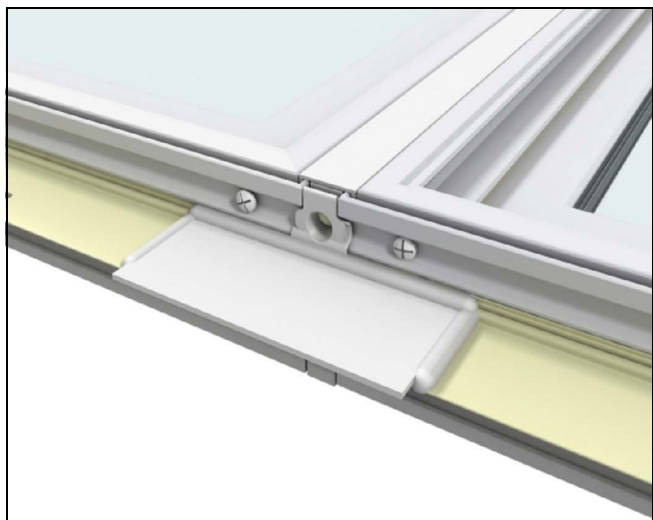

Figure 14
2. Replace the nailing fin on the frame perpendicular to the mull. Leave sill nail fin off at this point. Slide the nailing fin in from the corners all the way until they butt up against each other over the mull plugs. Install the nail fin connector gaskets and seal around the edges of the connector. See Figure 14.